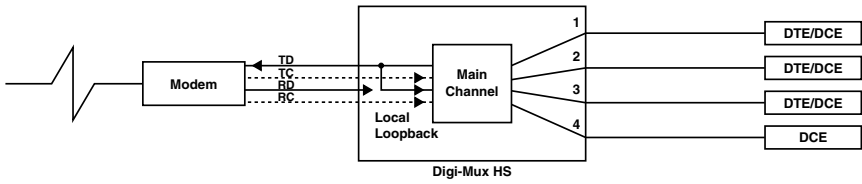

Figure 5-1. Digi-Mux HS in Local Loop.
1. Press the LOCAL LOOP button on the front panel. The TEST indicator should turn on. The Digi-Mux HS's transmit output is now connected to its own receive (Figure 5-1).